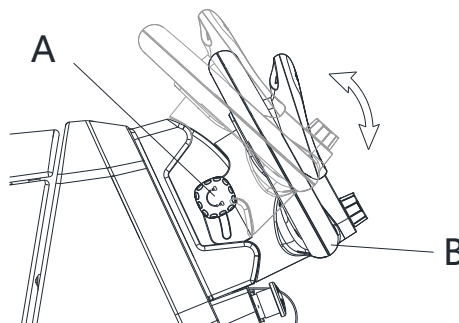

Figure 8
2. Unscrew the handle lock knob (5) until the handlebar (B, Fig. 8) can be moved.
3. Adjust to the operating Angle and lock through handle lock knob (A).